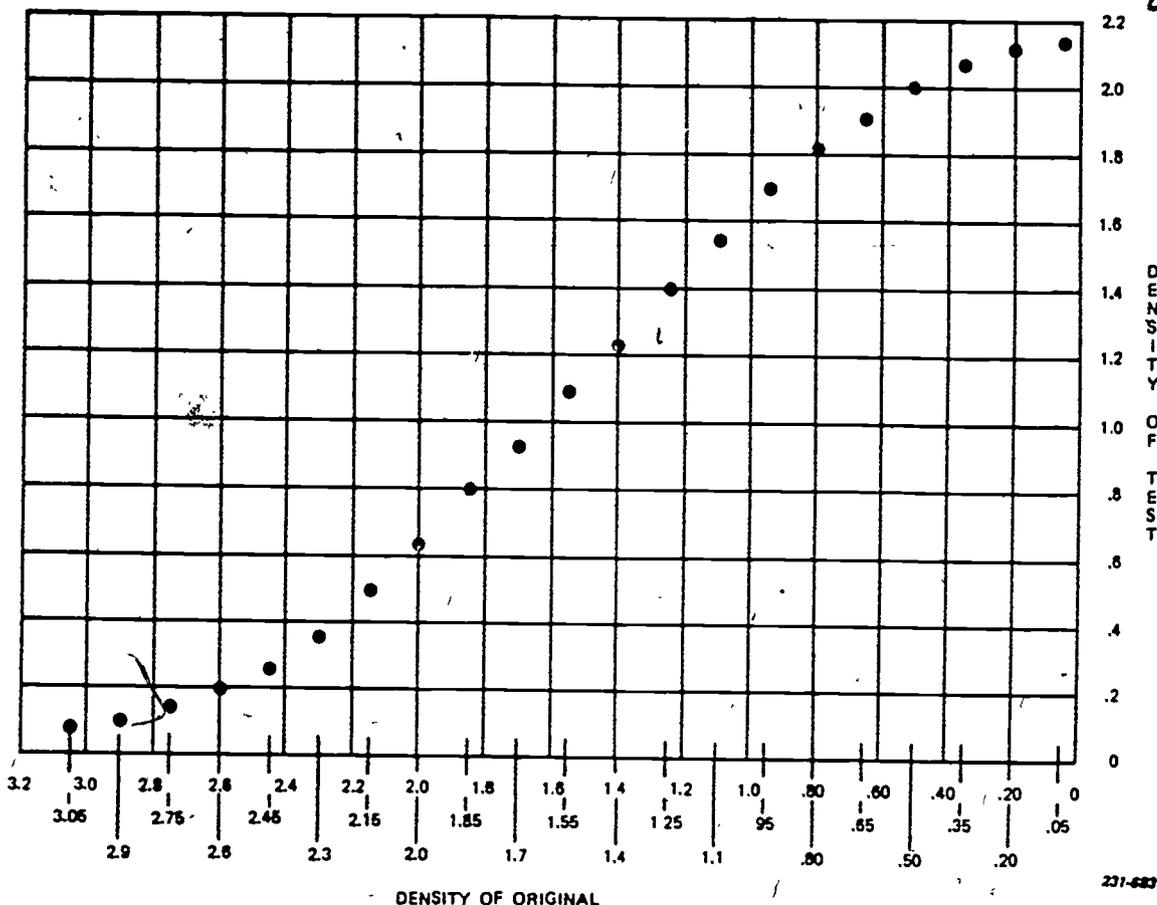

Figure 6-13. Density-density characteristic curve.
(6) The dots shown in figure 6-13 may then be connected, using a straightedge and French curve, and the result will be a characteristic curve.